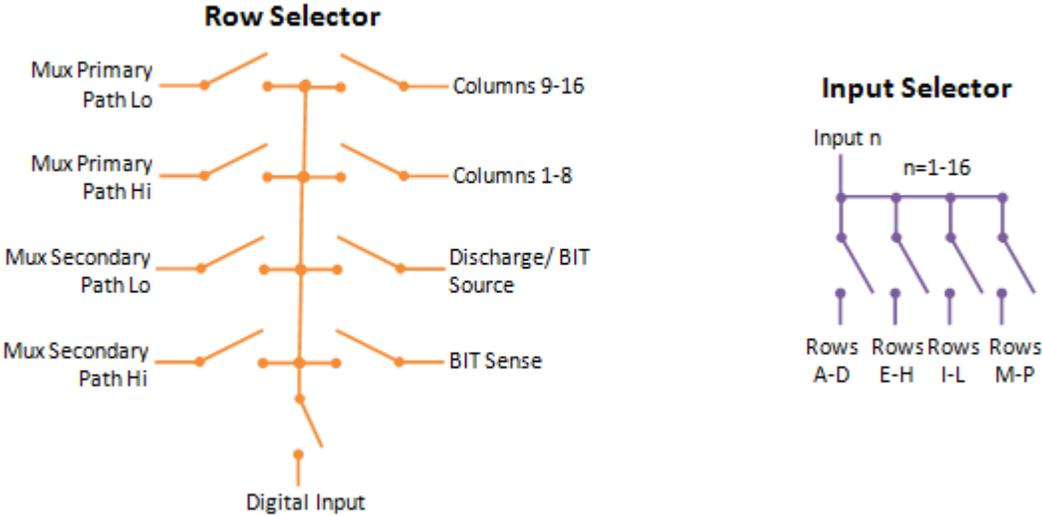

Figure 2-9: Schematic Diagram for Selectors
- The input selector switches an Input channel from the global switching bus in the backplane to one of four groups of rows: A-D, E-H, I-L, M-P. Figure 2-9 includes a logic schematic of an input selector.
- The row selector switches a pair of multiplexer groups to one of two sets of columns: 1-8 or 9-16 or to a digital input. Figure 2-9 includes a logic schematic of a row selector. The row selector can also connect the row to the BIT circuit.